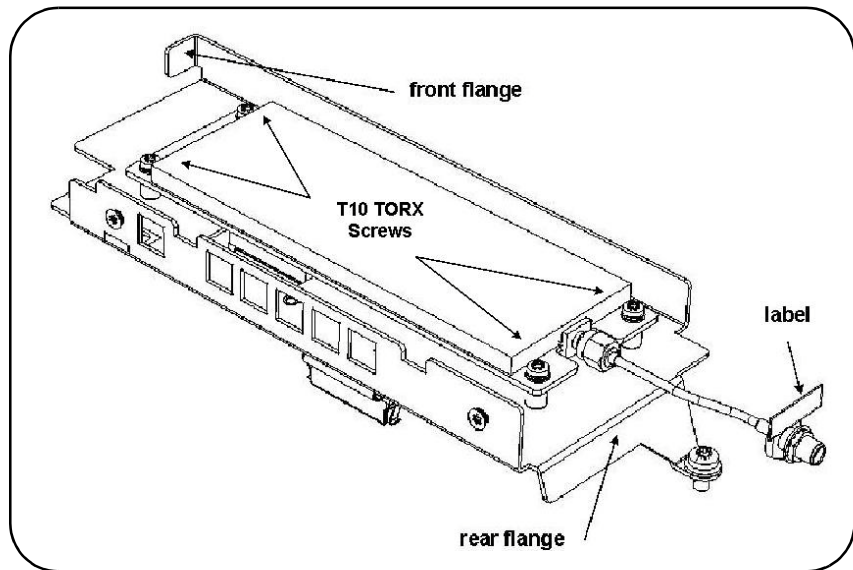

Figure 16. 53210A Channel 2 Rear Panel Option 106/203.
3. Assemble the parts in the Option 106 package as follows (Figure 16):